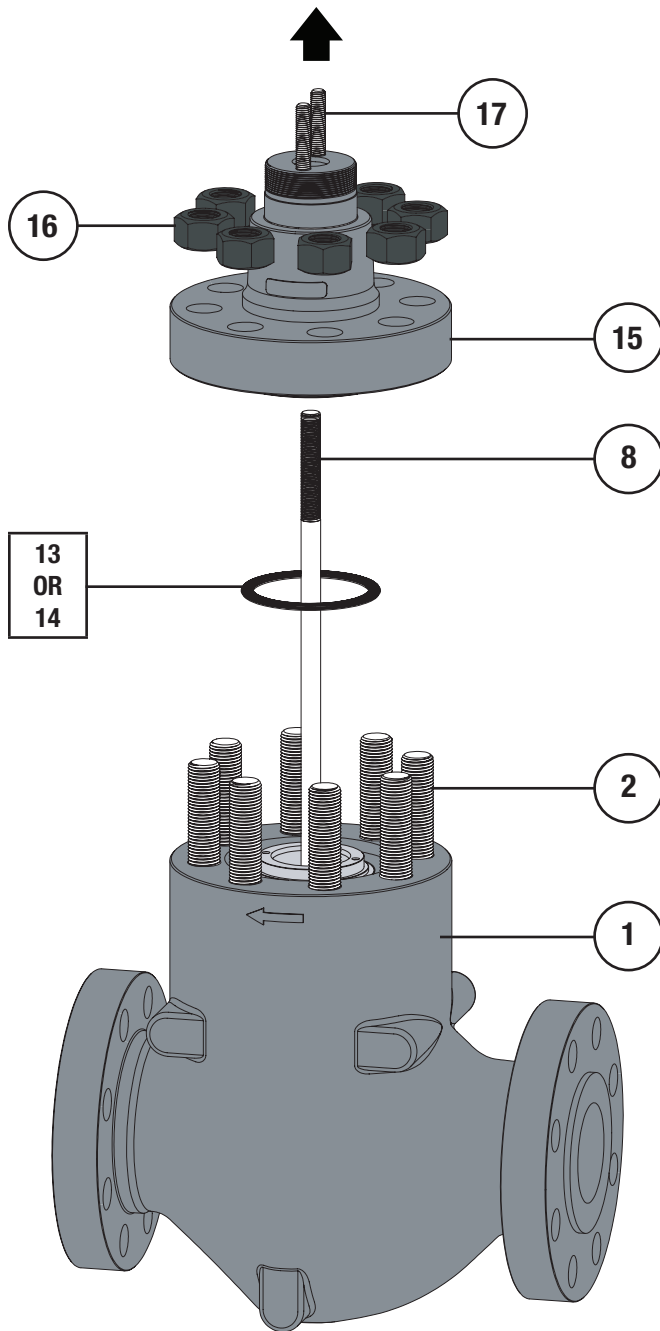

Figure 9 Bonnet Removal (Steps 3 & 4)
- 3** If no process fluid or gas escapes from the body-to-bonnet joint proceed by completely removing the bonnet nuts (Key 16). Refer to Figure 9.
- 1 Remove the gasket (Key 13) or spiral wound gasket (Key 14) if they haven't already been removed. Refer to Figure 9.